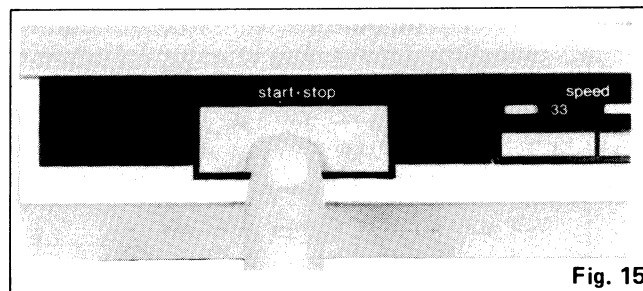

Fig. 15
3. Push the start/stop button. (See Fig. 15.)